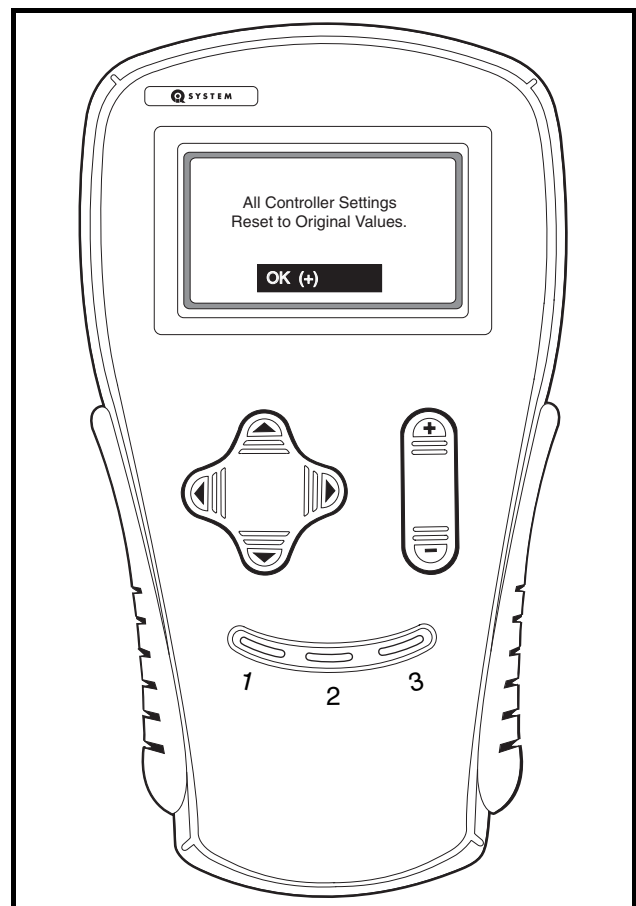

Figure 12-7 Confirmation Message
6. When the handset is finished resetting the speed controller settings, a confirmation message is displayed (**Figure 12-7**).